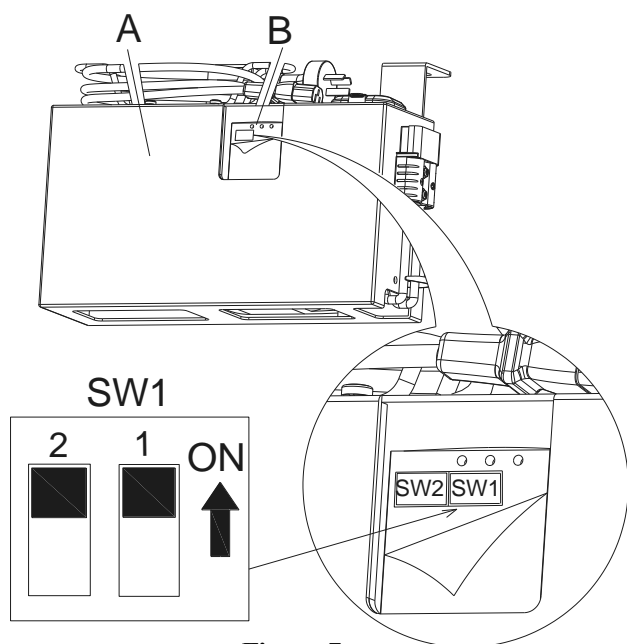

Figure 7
1. Turn off the machine and disassemble the On-board charger (A, Figure. 7) from the machine. Then pry open the label on the charger cover (B, Figure. 7) you will find the 2 sets of dipswitches (SW1 and SW2) in the charger.